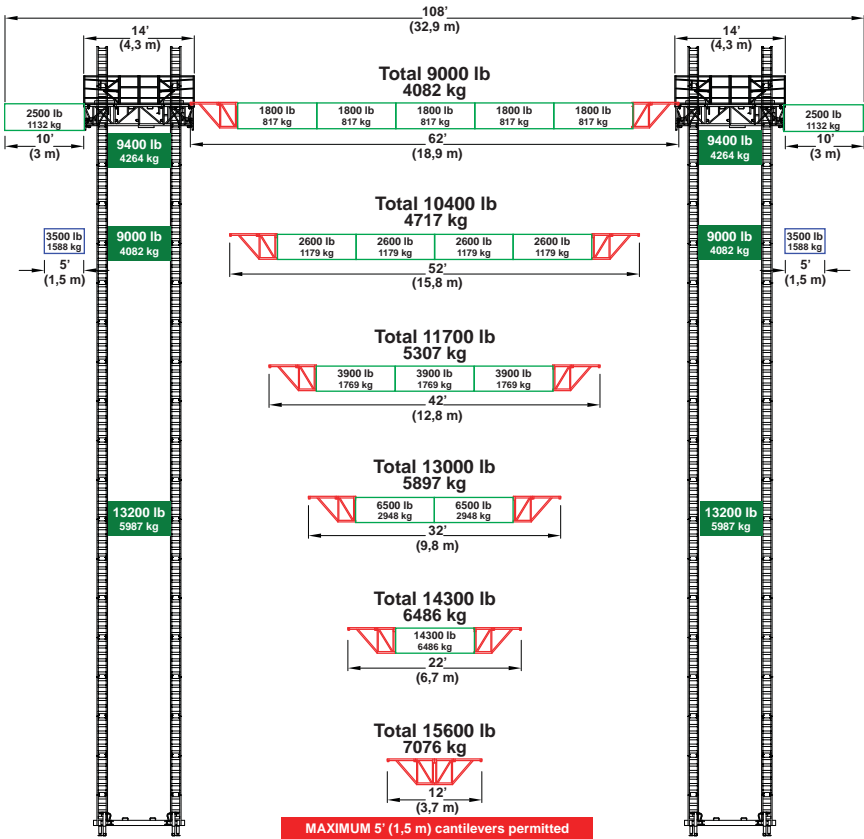
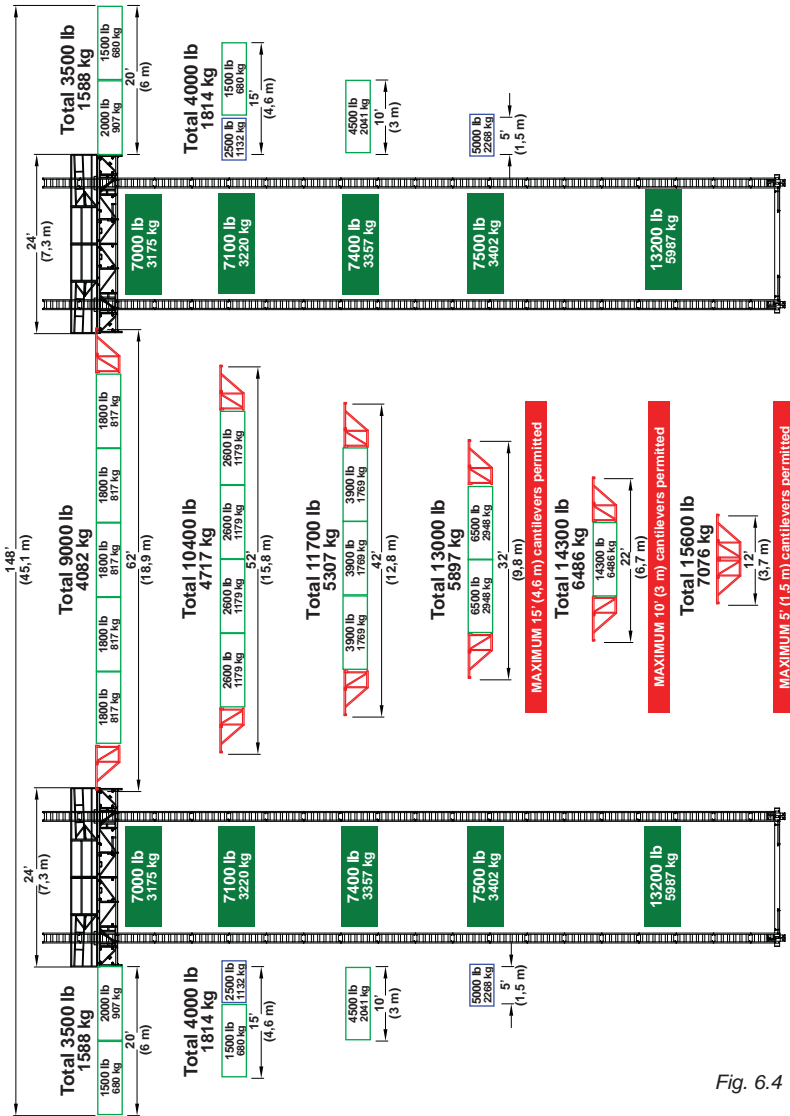

Fig. 6.3
Fig. 6.4
- 5- It is mandatory to have a minimum of two (2) workers per motorized unit or a maximum of one (1) worker per bridge area of 7 linear feet (2,1 linear meters).
- 9- Multiple unit setups can be a combination of any cantilever bridge on one side with any bearing bridge shown on the charts. Exclusions are shown in red in the charts (see fig. 6.3 on p. 66 and fig. 6.4 on p. 67).